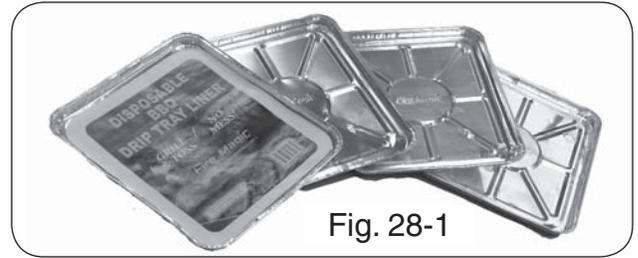

Fig. 28-1
Your grill includes a pack of four (4) Fire Magic® drip tray liners (Fig. 28-1). For your convenience in cleanup, place a liner into the drip tray before grilling.